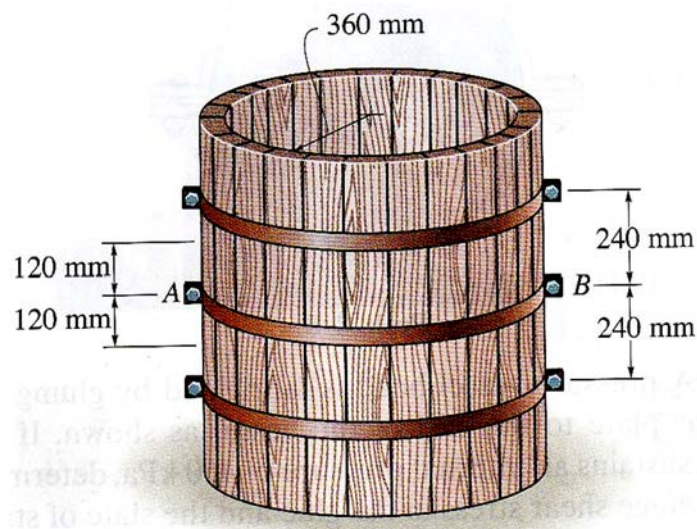

Figure Q3 [b]
- [b] The staves or vertical members of the wooden tank are held together using semi-circular hoops having a thickness of 10 mm and a width of 40 mm. The hoop AB supports the pressure loading within a 240 mm length of the tank as shown in Figure Q3 [b].